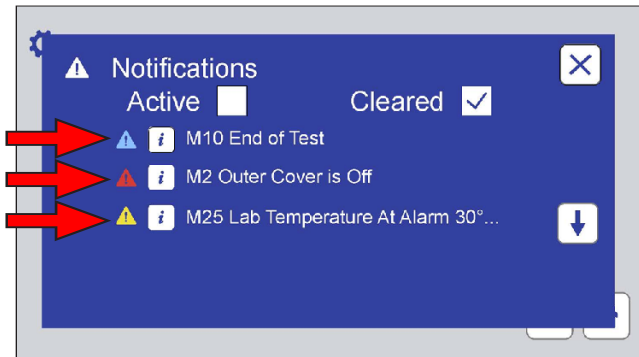

Figure 9.4e: Color coded icons show notification type.
- Color-coded attention icons indicate the type of notification (Figure 9.4e).